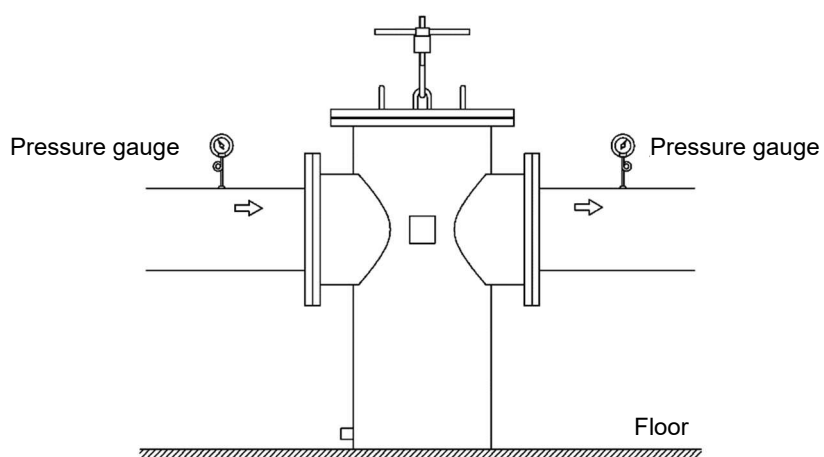

Figure 1: Piping example
(1) The amount of screen clogging matter can be monitored with pressure gauges installed upstream and downstream of the strainer. (See Figure 1 in 4.1 "Piping example".)